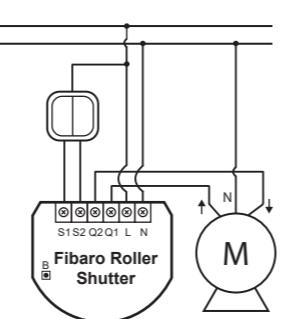
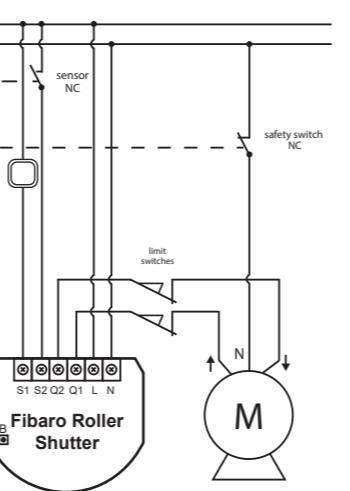

Fig. 1 Roller Shutter wiring diagram
Fig. 2 Connecting Roller Shutter to GATE motor
- Connect the Roller Shutter in accordance with the wiring diagram presented on Fig. 1 (roller blinds, venetian blinds) or Fig. 2 (gates).
1) Make sure the module is connected to the power supply, according to Fig. 1
- Make sure the module is connected to the power supply, according to Fig. 1
- Make sure the module is connected to the power supply, according to Fig. 1, and to the switch keys as well (S1 and S2 inputs).